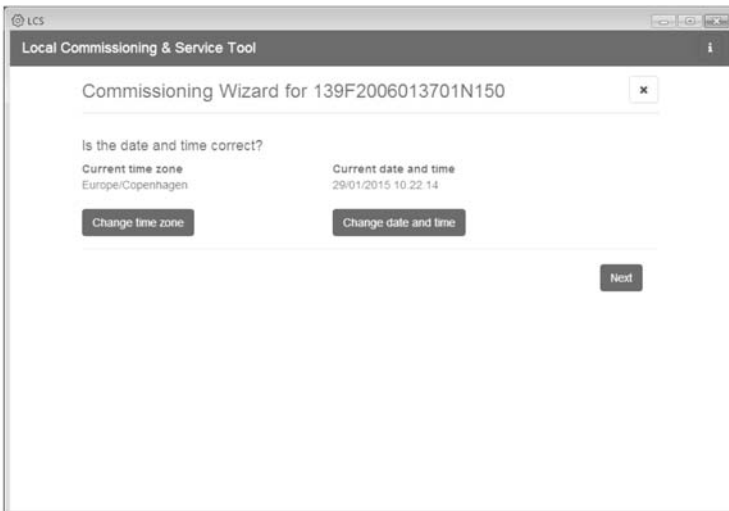

Figure 5.3 LCS tool - checking date and time
4. Verify that date and time are correct. If not, set date and time and continue. See figure 5.3.